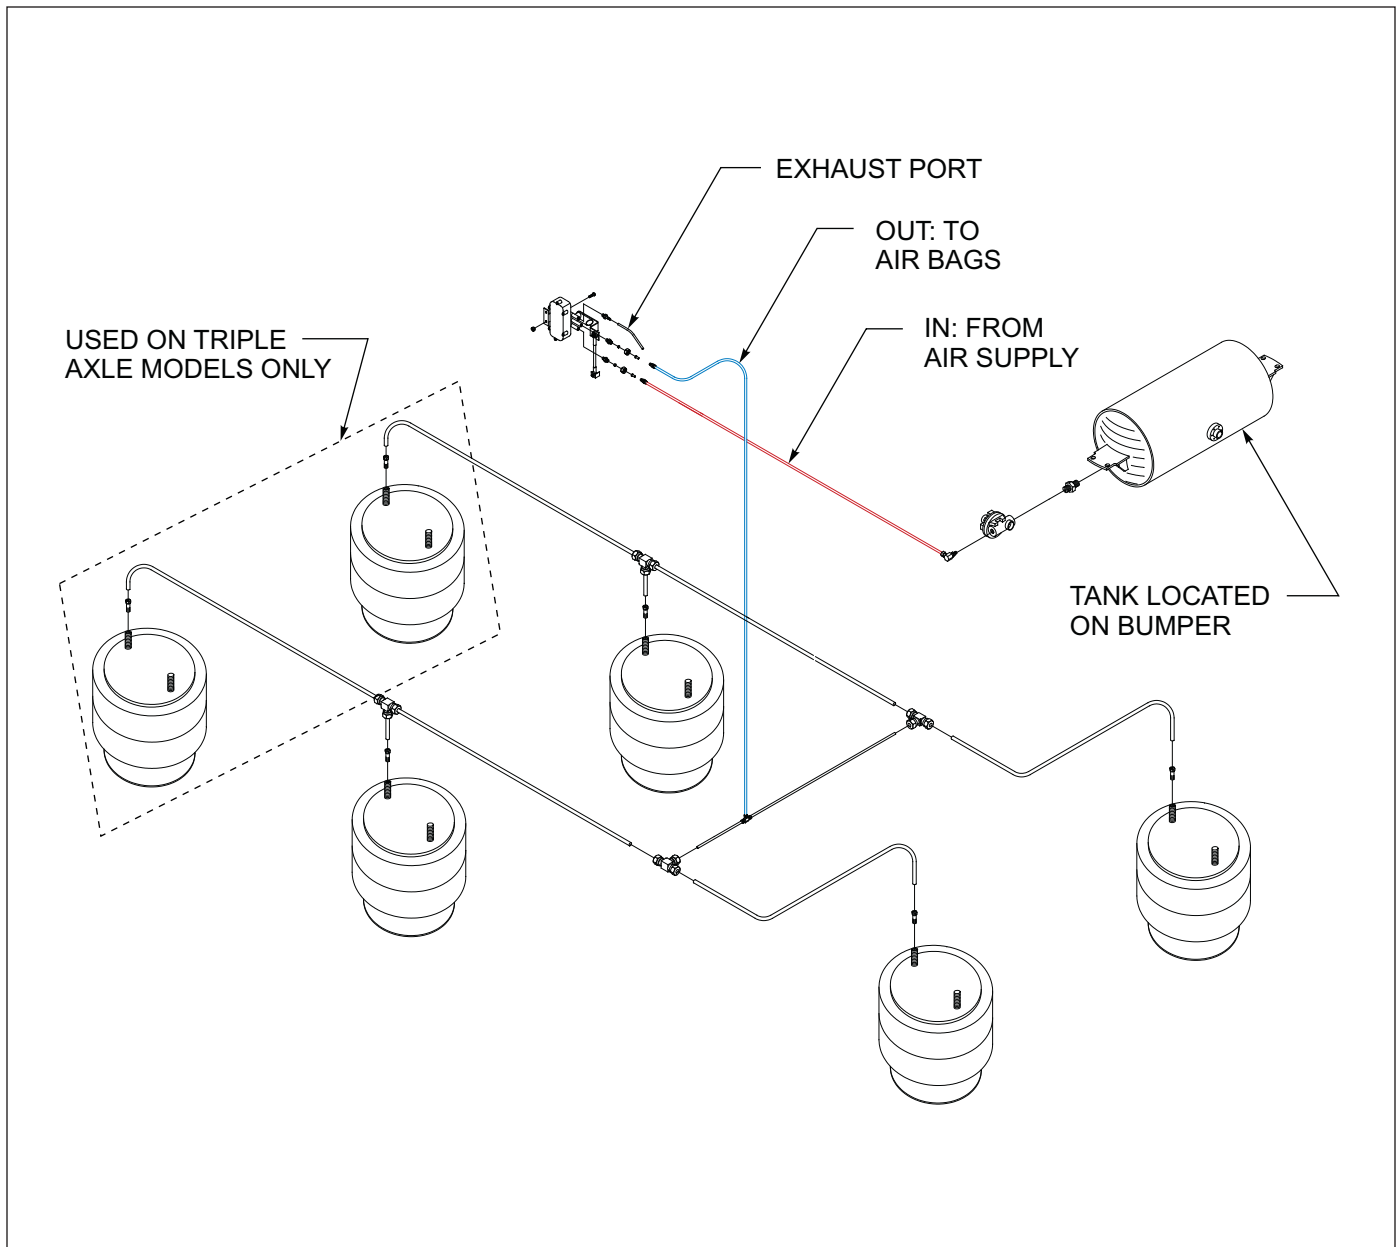

Figure 4-6: Tandem Axle Air Ride Suspension System
1. (See Figures 4-6 and 4-8) for Tandem and Triple Axle Air Ride Suspension drawings.